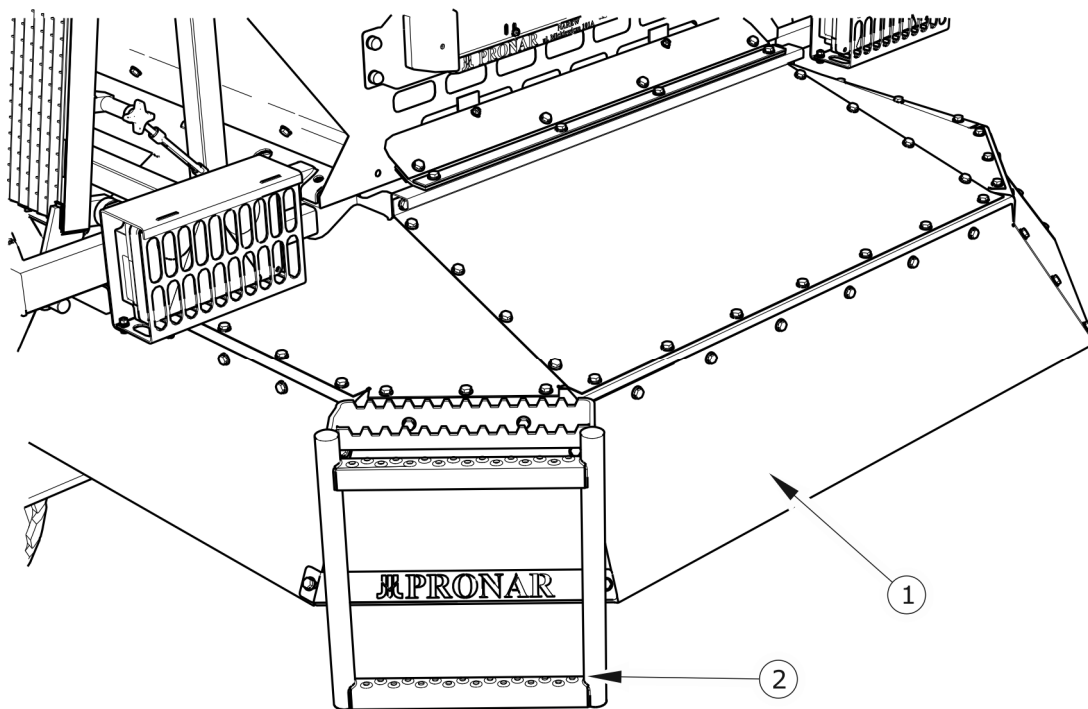

FIGURE 3.6 Spreading adapter covers
(1) right spreading disc, (2) left spreading disc, (3) adapter base, (4) hydraulic engine
The spreading adapter is fitted under the covers (1) made of sheet steel – see Figure 3.6. The covers are interconnected with the help of screws and fixed to the cover frame. The entire section is installed in appropriate slots of the spreader frame with the help of brackets.